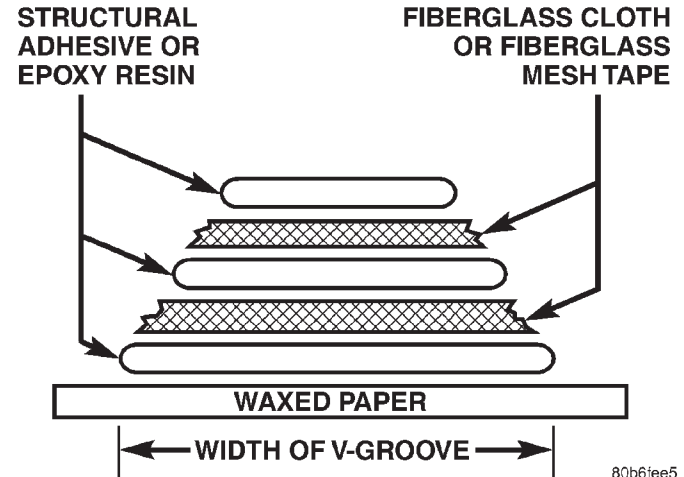

Fig. 9 Fabricated Panel
(1) Cover waxed paper or plastic with adhesive backed nylon mesh (dry wall tape) larger than the patch required (Fig. 9).
(2) Tape waxed paper or plastic sheet with mesh to a surface that has a compatible contour to the repair area.
(3) Apply a liberal coat of epoxy adhesive over the reinforcement mesh (Fig. 9). If necessary apply a second or third coat of epoxy and mesh after first coat has cured. The thickness of the patch should be the same as the repair area.
(4) After patch has cured, peel waxed paper or plastic from the back of the patch.
(5) If desired, a thin film coat of epoxy can be applied to the back of the patch to cover mesh for added strength.